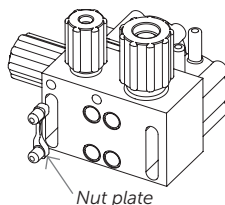

Figure 5.
10. Install the nut plate(s) by pushing them into the manifold block or hold the nut plate in place while turning each mounting bolt (P2) until it engages the nut plate threads (Figure 5).